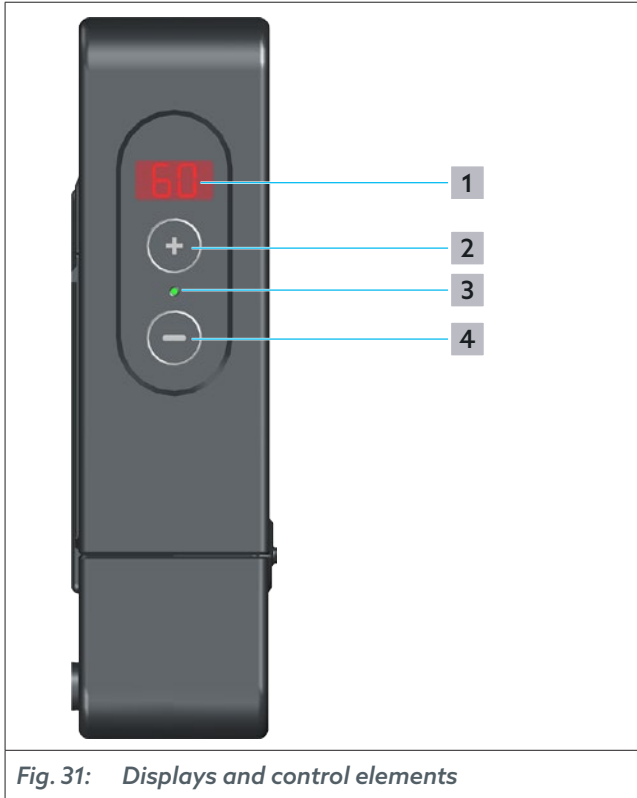

Fig. 31: Displays and control elements
- To view the values of the temperature sensors (S1, S2, S3), press and hold the "+" and "-" key for 3 seconds. The individual values appear one after the other on the display (position 1 in Fig. 31 on page 30).
The hot water setpoint temperature and status display (position **1** in Fig. 31 on page 30) shows the setpoint temperature and error codes.